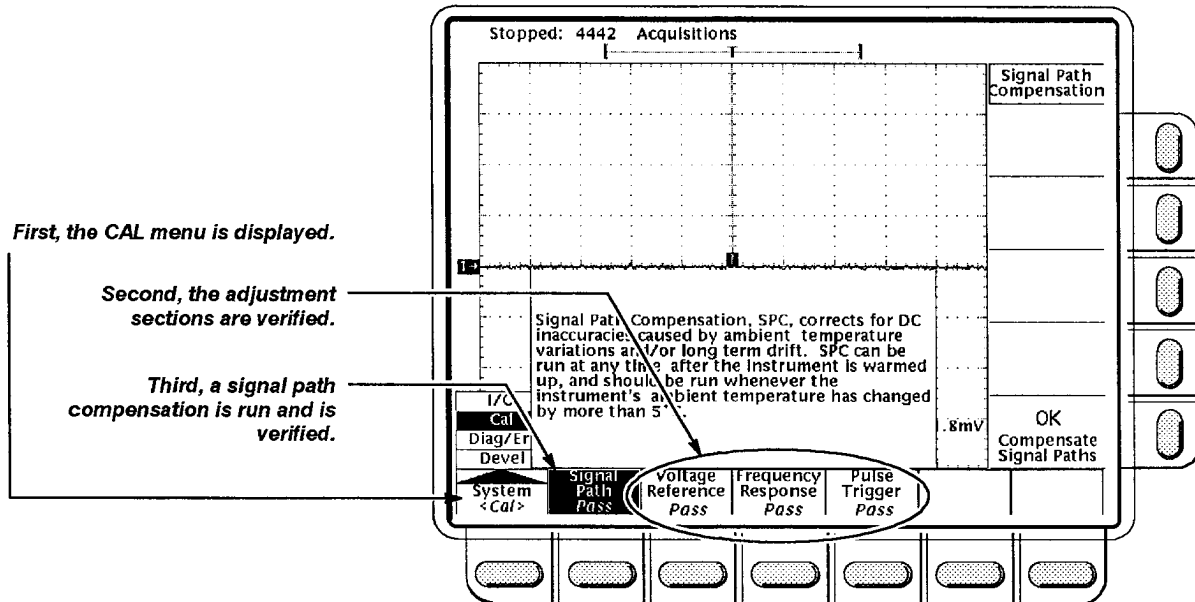

Figure 4-2: Verifying Adjustments and Signal-Path Compensation
- Verify that the word **Pass** appears in the main menu under the following menu labels: **Voltage Reference**, **Frequency Response**, and **Pulse Trigger**. (See Figure 4-2.)
- h. *Confirm signal-path compensation returns passed status:* Verify the word **Pass** appears under **Signal Path** in the main menu. (See Figure 4-2.)